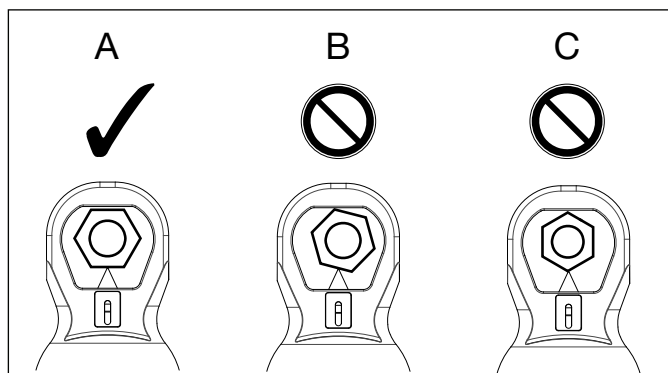

Figure 7: Positioning the Cutting Head
6. Position the cutting head over the nut, ensuring that the flat surface of the blade rests against one of the nut flats. Centrally position the nut within the head so that the blade will cut in the center of the nut flat. See Figure 7, view "A".